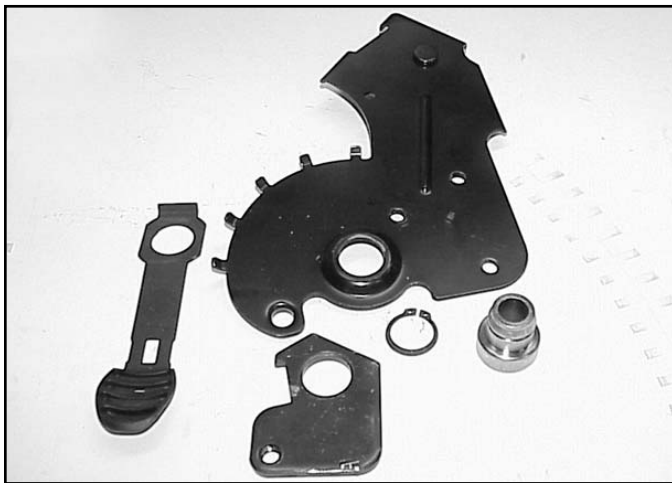

Fig 081
6. You can now release the clamps and separate the HOC plate, spring arm, and pivot arm (Fig. 081).